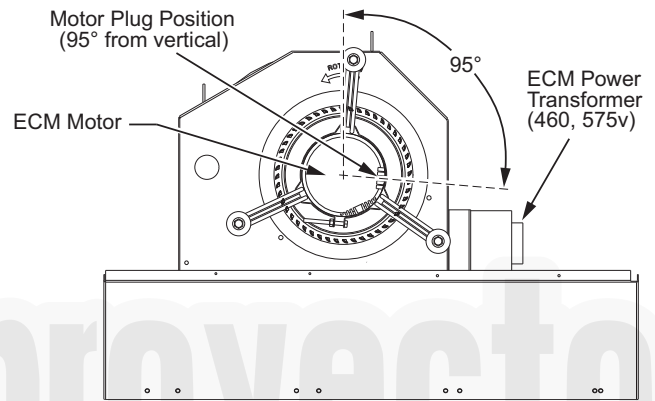

Fig. 5 — 50KCQ Direct-Drive Supply Fan Assembly
For unit sizes 04, 05 and 06, a direct-drive forward-curved centrifugal blower wheel is an available option. The motor has taps to provide the servicer with the selection of one of five motor torque/speed ranges to best match wheel performance with attached duct system. See Fig. 5 (50KCQ Direct-Drive Fan Assembly) and Fig. 6 (ECM Motor Connectors).
8. Ensure the motor terminals are located at a position below the 3 o'clock position. See Fig. 5. Tighten the motor belly-band bolt and torque to 80 in. lbs (9.0 Nm).